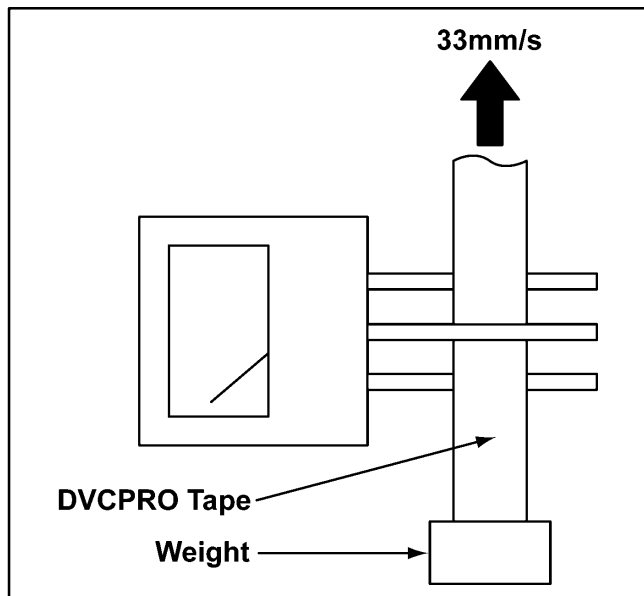

Figure 3-8-1
2. Set the above tape to the Tension Meter as shown in figure 3-8-1.
- ◆ With tape pass direction should be the same direction of tape transportation under the VTR, when confirm the Tension Meter as shown in figure 3-8-1.